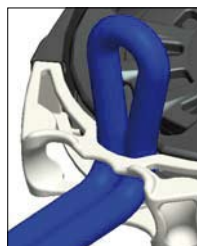

Fig. 1.1b
2. Feed the endless line through the line guide and up through the central notch. (fig 1.1b).